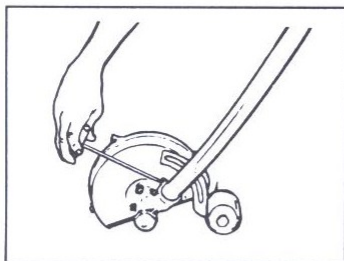

Fig. 3
3. Back out the anti-rotation screw and push boom assembly into the casting. Rotate until the hole in the boom is aligned with the hole in the casting. Install the anti-rotation screw and tighten the clamp screw (Fig. 3).